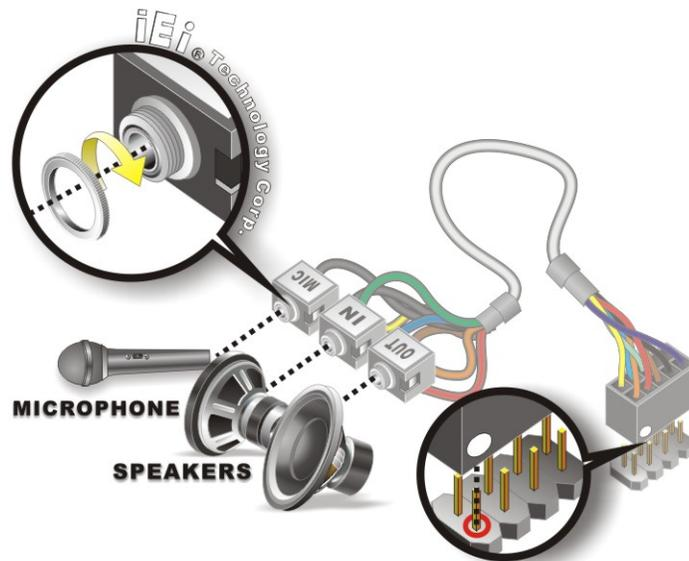

Figure 4-16: Audio Kit Cable Connection
Step 2: Align pin 1. Align pin 1 on the on-board connector with pin 1 on the audio kit connector. Pin 1 on the audio kit connector is indicated with a white dot. See **Figure 4-16**.